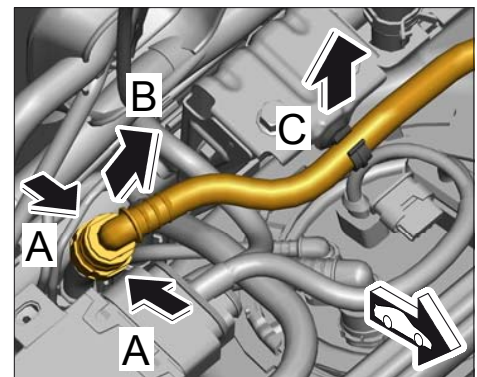

Figure 2
- 8.1.1 Release vacuum line at the connection point ⇒ *Figure 2 -arrows A-* and disconnect it ⇒ *Figure 2 -arrow B-*.
- 8.1.2 Unclip vacuum line ⇒ *Figure 2 -arrow C-*.